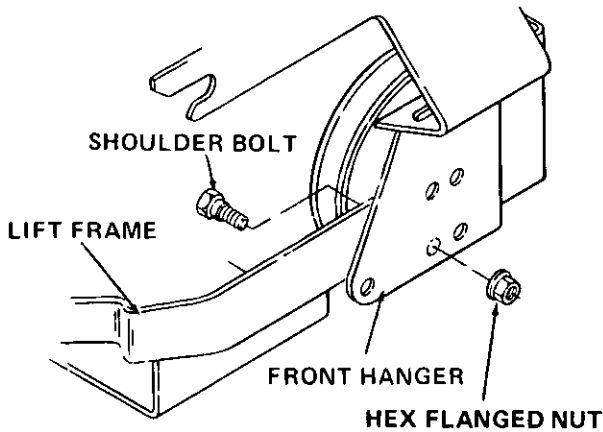

Figure 3
1. Attach front hanger to the lift frame with shoulder bolts and hex flanged locknuts. Refer to Figure 3 to determine proper mounting hole. Head of shoulder bolts is positioned to inside of frame. Torque nuts to 33 to 37 ft-lbs. (45 to 50 N-m).